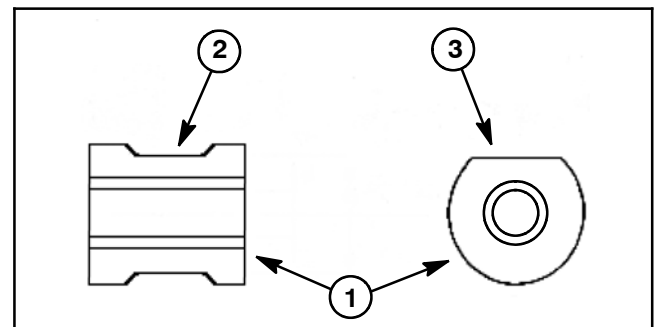

Figure 11
5. Check the rollers in the spider assembly for binding or wear (Fig. 11). If binding or uneven wear is found, replace clutch assembly.